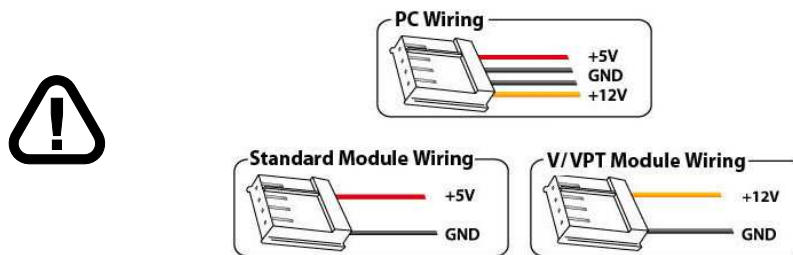

Figure 9: PC vs Matrix Orbital Display Module Wiring
- First, you will want to make sure that you are using the correct power connector. Standard floppy drive power cables from your PC power supply may fit on the Power/Data Connector however they do not have the correct pin-out as can be seen in *figure 9 on page 4*. Matrix Orbital supplies power cable adapters for connecting to a PC, which can be found in the *Accessories Section on page 1*.